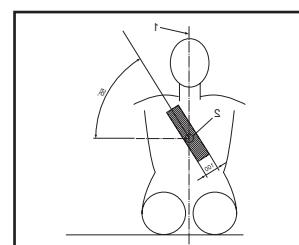

Figure 5
Removing the headrest (see fig. 5)*
- The diagonal belt must be positioned across the user's shoulder and chest as shown in figure 5.